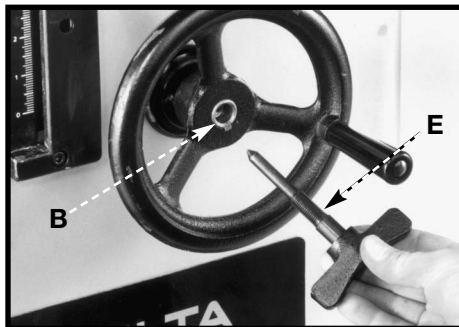

Fig. 2
3. Thread the lock knob (E) Fig. 2 into the spindle shaft (B).